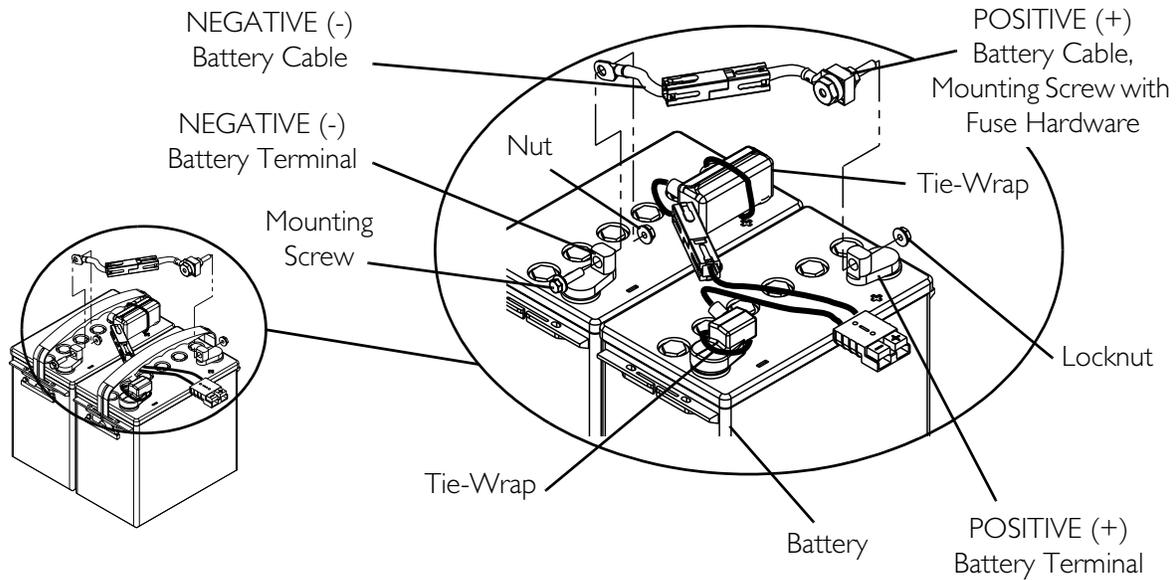

FIGURE 11.3 Connecting/Disconnecting the Battery Wiring Harness
When connecting the battery cables to the battery(ies), the battery cable(s) **MUST** be connected to the battery terminal(s)/post(s) as shown in **FIGURE 11.3** otherwise damage to the battery may result.
NOTE: For this procedure, refer to FIGURE 11.3.
3. Using the mounting screws and nuts, secure the NEGATIVE (-) BLACK battery cable to NEGATIVE (-) battery terminal/post as shown in FIGURE 11.3.
4. Using the mounting screws and nuts, secure the POSITIVE (+) RED battery cable to POSITIVE (+) battery terminal/post as shown in FIGURE 11.3.
8. Using new tie-wraps, secure the terminal covers to the battery terminals as shown in FIGURE 11.3.
4. Remove the mounting screws and nuts that secure the POSITIVE (+) RED battery cable to the POSITIVE (+) battery terminal/post as shown in FIGURE 11.3.
5. Remove the mounting screws and nuts that secure the NEGATIVE (-) BLACK battery cable to the NEGATIVE (-) battery terminal/post as shown in FIGURE 11.3.